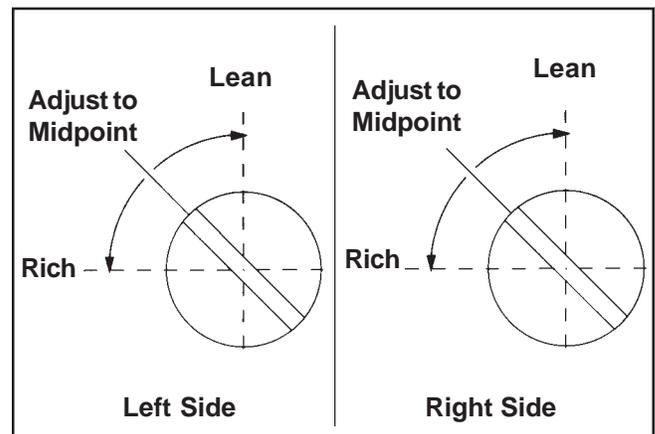

Figure 28. Optimum Low Idle Fuel Settings.
- a. Turn one of the low idle fuel adjusting needles out (counterclockwise) from the preliminary setting until the engine speed decreases (rich). Note the position of the needle. Now turn the adjusting needle in (clockwise). The engine speed may increase, then it will decrease as the needle is turned **in** (lean). Note the position of the needle. Set the adjusting needle midway between the rich and lean settings. See Figure 28.